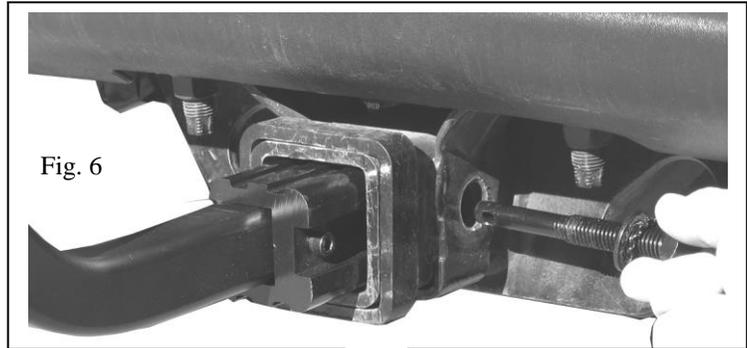

Fig. 6
Insert the receiver tube **B** into the hitch and align the holes of the trailer hitch with the holes of the receiver tube **B** per Fig. 6. Place the lock washer and then the flat washer onto the hitch pin bolt **L**. Next, insert and tighten hitch pin bolt **L** securely through the hitch and into the receiver tube using a wrench (adjustable,  $\frac{3}{4}$ " or 19mm). Install the lock head onto the end of the hitch pin and be sure to remove the key. The rack should now be solidly mounted to your hitch.
**Note for 2" hitches:** When inserting the hitch pin bolt, the bolt should pass through the aluminum spacer first then through the receiver tube per Fig. 6.